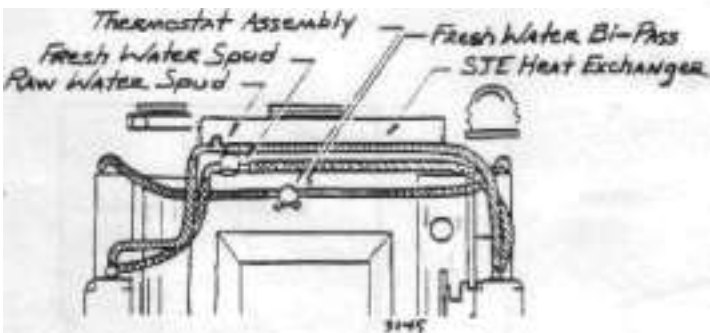

Figure 5
7. Remove the 3/8" pipe plug from the intake manifold. This is located slightly in front and to the left of the thermostat. (Figure 5). If your manifold has a 1/2" pipe plug, use the 3/8" to 1/2" NPT adaptor provided. Thread the brass 3/8" pipe to 5/8" hose 90° fitting into the hole or adaptor. This spud must face towards the back edge of the fuel filter. Remove the 1/2" pipe plug located on the left hand side of the fresh water pump, just above the large 1 3/4" suction hose. Thread the brass 1/2" pipe to 5/8" hose straight fitting into this hole. Tighten both fittings snugly. Using the 15" piece of 5/8" hose and (2) #8 hose clamps, plumb these two fittings together. This is your fresh water bi-pass and can also be used for a heater. For a heater plumb the bottom of the heater to the bi-pass outlet next to the thermostat assembly, the top of the heater to the outlet at the water pump.
15. Carefully re-route the right hand 3/4" raw water hose that leads from the bottom of the right hand exhaust manifold. It will now run outside the power steering bracket and over the valve cover. With the original hose clamps connect this hose to the spud on the right side of the thermostat assembly. Connect the 3/4" hose leading from the bottom of the left hand exhaust manifold to the spud on the left. Again use the original hose clamps and this hose does not need to be re-routed (Figure 5, 7).